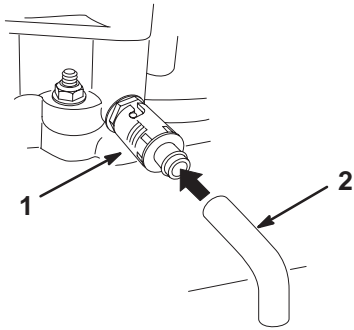

Figure 22
6. Place a pan below the drain hose. Rotate oil drain valve to allow oil to drain (Fig. 22).
8. Remove the drain hose (Fig. 22).